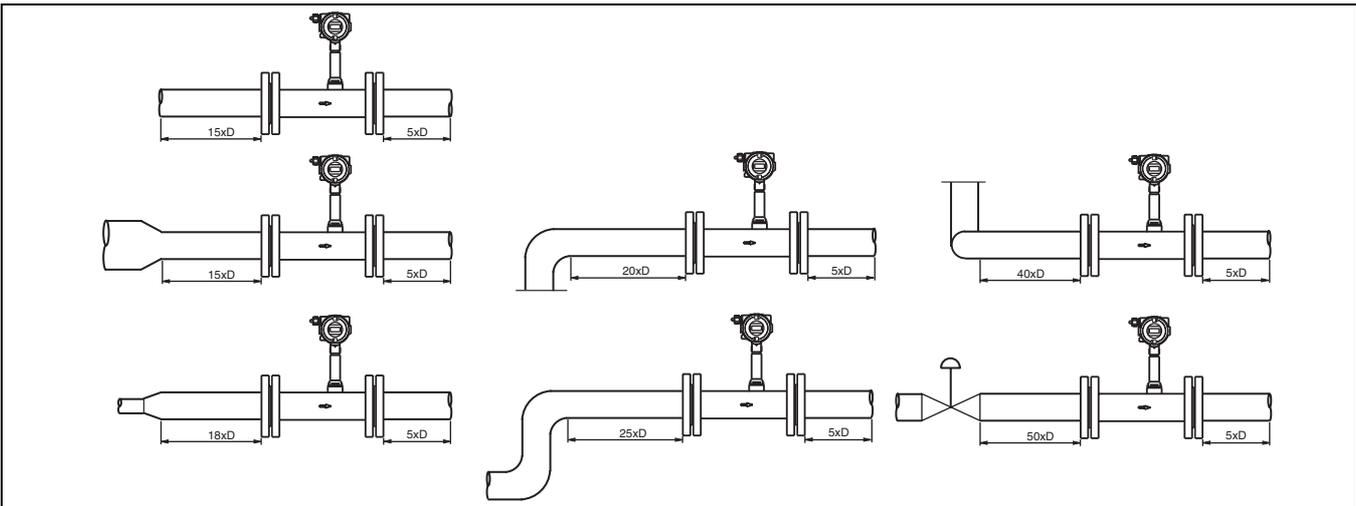

Fig. 11: Recommended In- and Outlet Straight Sections
- the recommended in- and outlet straight sections are provided (Fig. 11).